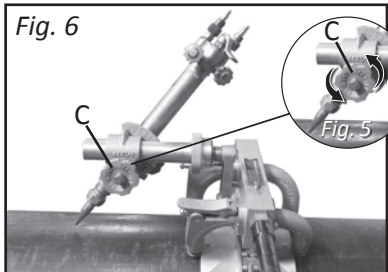

Fig. 6
- B. Install torch inside Torch Holder. (Fig. 6)